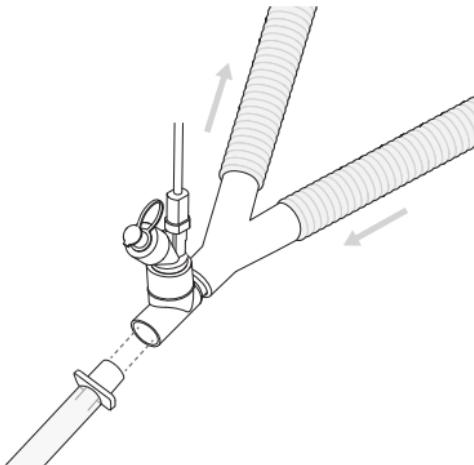

Figure 8. The Aerogen Solo placed between the wye and endotracheal tube.
3. The Aerogen Solo can be placed between the wye and endotracheal tube as shown in Figure 8. The Aerogen Solo can be used with a Heat and Moisture Exchange Device (HME) which may contain a filter.
For optimum use of the Aerogen Solo, ensure it is correctly orientated as shown in Figure 8. This applies to both 30 Minute and Continuous modes.